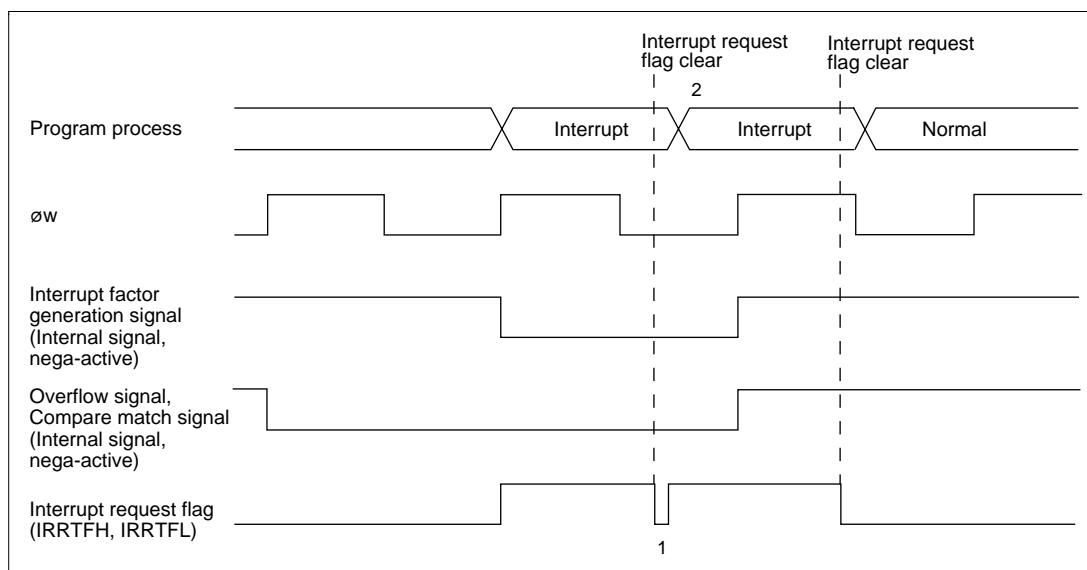

Figure 9.6 Clear Interrupt Request Flag when Interrupt Factor Generation Signal is Valid
When $\phi w/4$ is selected as the internal clock, "Interrupt factor generation signal" will be operated with ϕw and the signal will be outputted with ϕw width. And, "Overflow signal" and "Compare match signal" are controlled with 2 cycles of ϕw signals. Those signals are outputted with 2 cycles width of ϕw (figure 9.6)
In active (high-speed, medium-speed) mode, even if you cleared interrupt request flag during the term of validity of "Interrupt factor generation signal", same interrupt request flag is set. (figure 9.6 1) And, you cannot be cleared timer overflow flag and compare match flag during the term of validity of "Overflow signal" and "Compare match signal".
For interrupt request flag is set right after interrupt request is cleared, interrupt process to one time timer FH, timer FL interrupt might be repeated. (figure 9.6 2) Therefore, to definitely clear interrupt request flag in active (high-speed, medium-speed) mode, clear should be processed after the time that calculated with below (1) formula. And, to definitely clear timer overflow flag and compare match flag, clear should be processed after read timer control status register F (TCSRF) after the time that calculated with below (1) formula. For ST of (1) formula, please substitute the longest number of execution states in used instruction. (10 states of RTE instruction when MULXU, DIVXU instruction is not used, 14 states when MULXU, DIVXU instruction is used) In subactive mode, there are not limitation for interrupt request flag, timer overflow flag, and compare match flag clear.